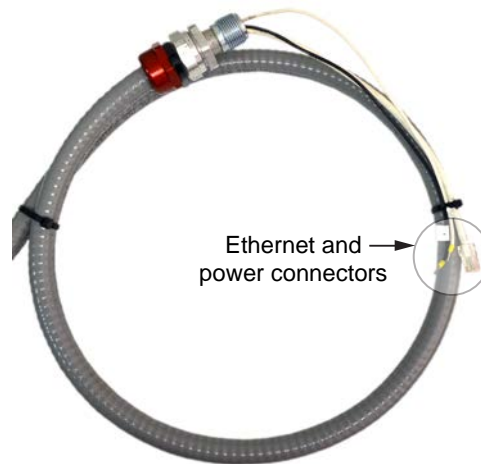

Figure 4.7—Ethernet and power conductors connecting the WiFi box to the QRATE Scanner 3100
- f. Thread the Ethernet and power wires shown in Figure 4.7 through the conduit opening in the enclosure and tighten the cable connector in the conduit opening.